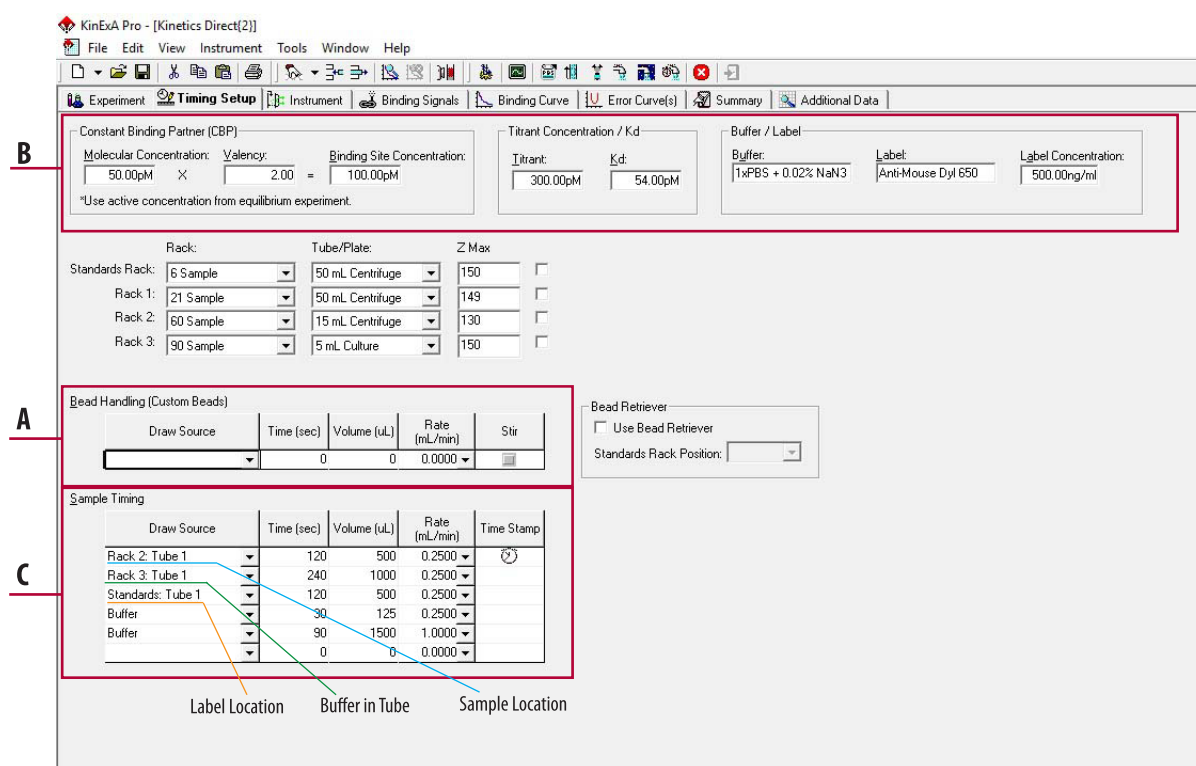

Figure 3A-C. Sample Handling template.
- To delete the lines, select the first row under *Bead Handling* and select the **Delete Row(s)** button  in the tool bar or select **Delete Row(s)** in the *Edit* menu. Delete all rows until the final row shows zero for the time, volume, and flow rate (**Figure 3A**).